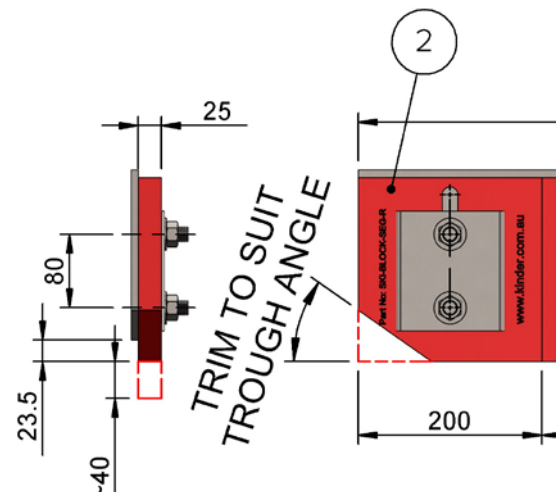

Fig 3
4. For rear skirting installation, tack weld the backing plates onto the side walls of chute or bins to previously marked positions. Install all polyurethane segments, ensuring all segments are touching the belt without gap. Trim the polyurethane segments on both ends to suit belt troughed angle to get a proper seal. (See **Fig.3**, below right).